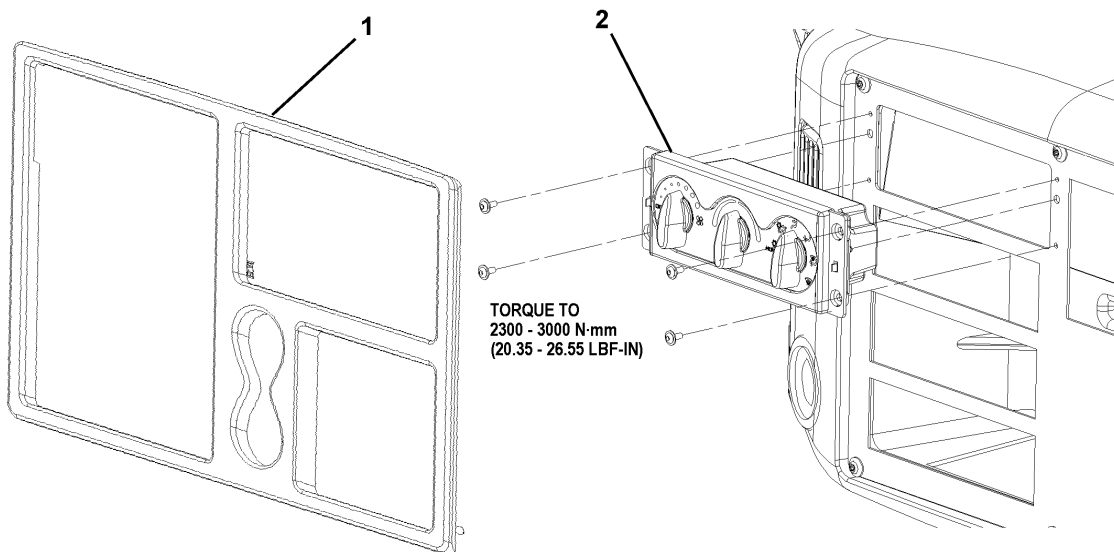

Figure 35 Typical HVAC Control Panel Mounting
NOTE – Refer to Figure 35 while performing the following steps.
1. The decorative bezel on center section of IP is secured by spring clips. Carefully pry the bezel (1, Figure 35) from center section of the IP.
2. Remove four screws securing HVAC control panel assembly (2) to IP.
1. Connect wiring connector to rear of HVAC control panel (2, Figure 35).
4. Install bezel (1) in the center section of IP by aligning spring clips and carefully pressing bezel into position.